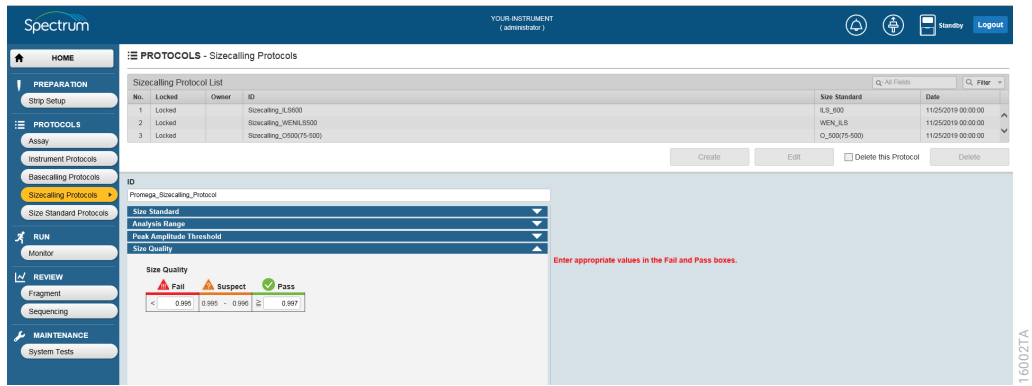

Figure 54. 'Sizing Quality' pull-down screen.
6. Select the **Size Quality** pull-down menu and enter SQ values below which SQ data is considered failing and above which it is considered as passing (Figure 54).